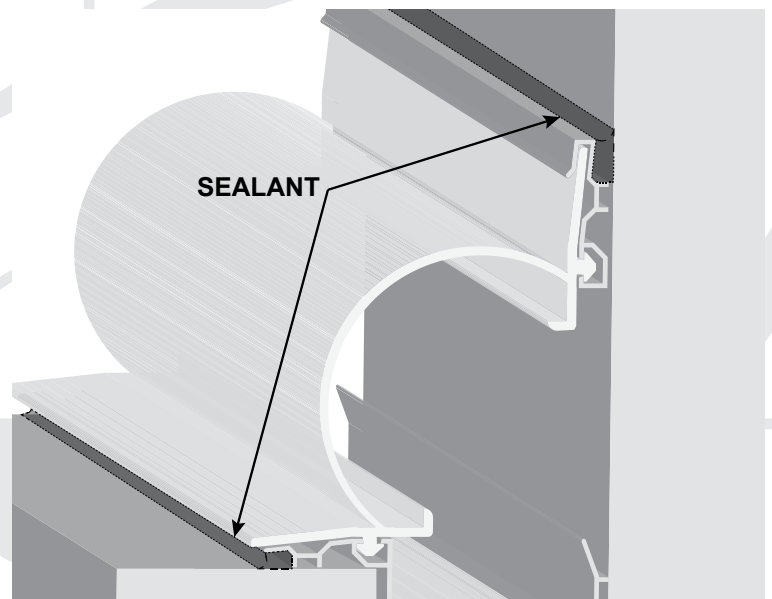

Figure 10—RW Base Member Sealant Application
6. Apply a continuous bead of sealant into the top gap in the wall base member and the outside gap in the corner base member (Figure 10).